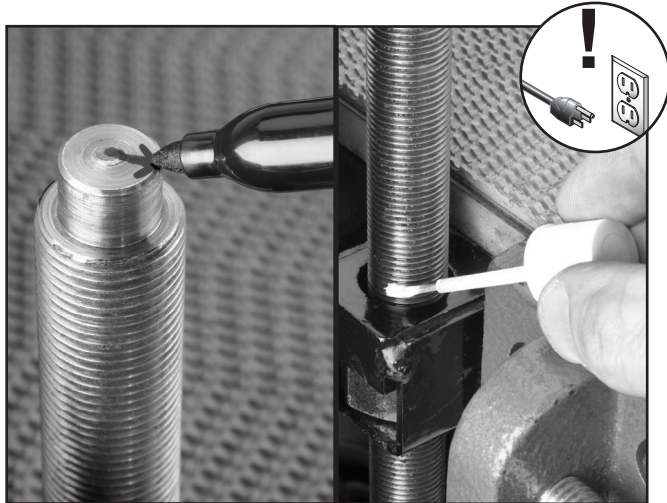

Figure 45. Locations to mark table lift screws.
11. Mark the top of the table lift screws with arrows (all pointing in same direction) and mark the screws with liquid correction fluid above the mounting bracket (**Figure 45**). Later, when you reassemble the conveyor table, you can use these marks to reset the table height close to the current position.